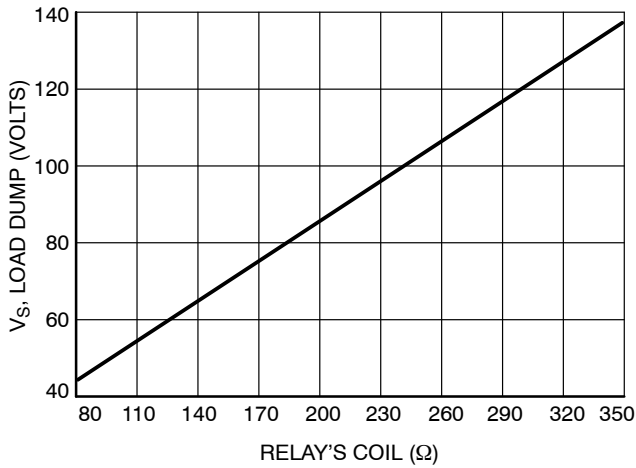

Figure 4. Load Dump Capability versus Relay's Coil dc Resistance
4. For relay's coils/inductive loads higher than $80\ \Omega$, see Figure 4.